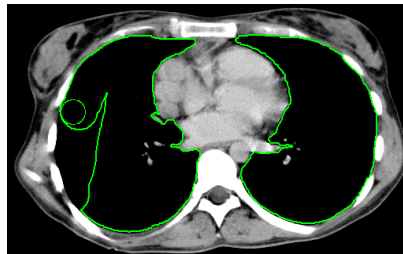

Figure 266 – Adding an area to a contour using the Brush drawing tool
4. To add/remove a contour, press and hold down the left mouse button and move the brush cursor to create the desired shape (see Figure 266).